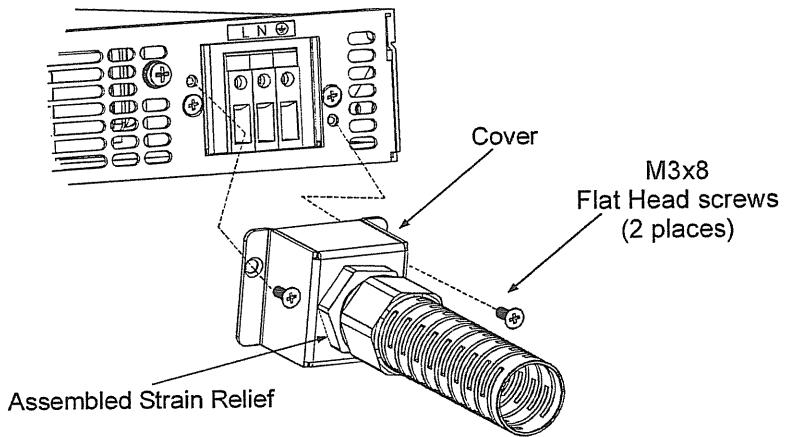

Fig.3-3: AC input cover and strain relief, 1500W models
- e) Route the wires inside the cover to prevent pinching. Fasten the cover to the unit using the M3x8 Flat Head screws provided. Refer to Fig.3-3 for details.